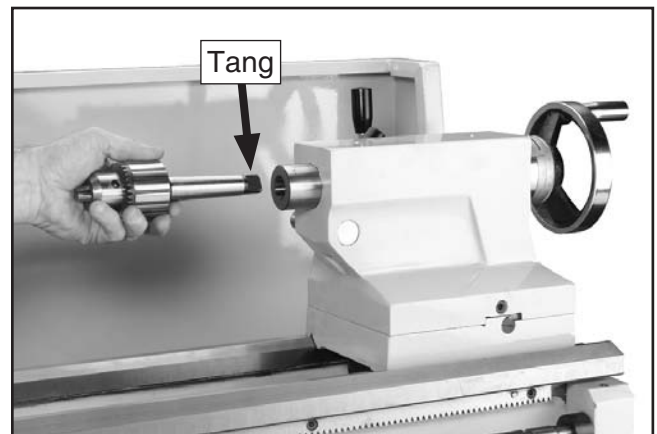

Figure 43. Inserting an MT#3 drill chuck into the tailstock quill.
2. Insert the drill chuck arbor or drill shank into the quill, as shown in **Figures 43–44**, then lightly tap the tool with a wood block until it is firmly seated.